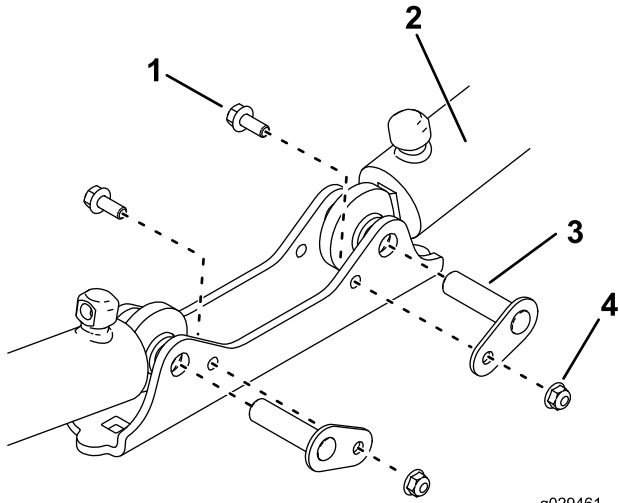

**Figure 5**
- Remove the valve mount from the cylinder-mount plate (Figure 5).